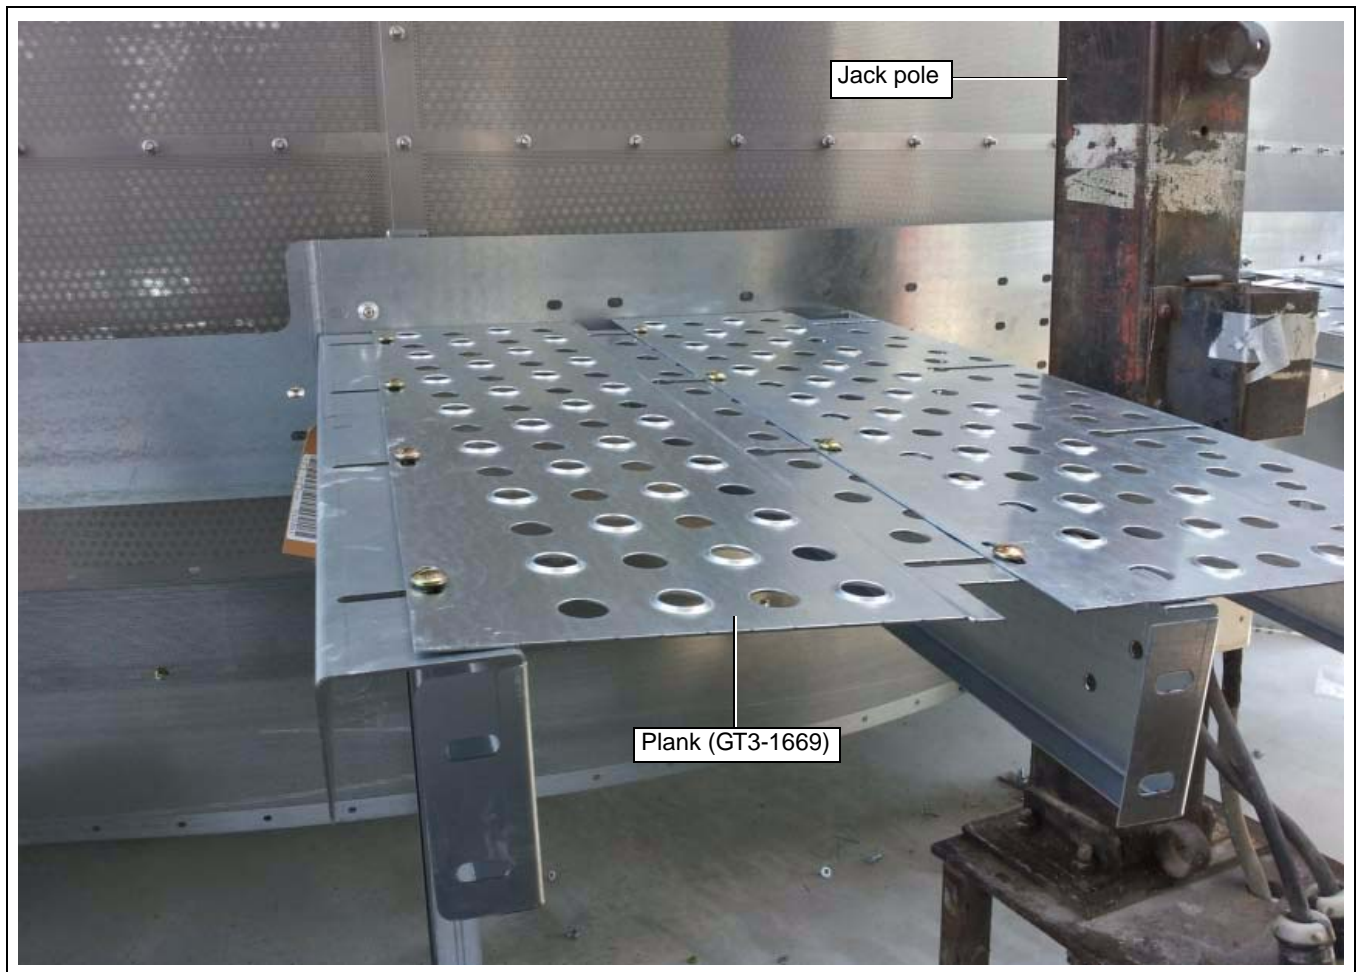

Figure 4L
4. Install all the planks (GT3-1669) continuously around the dryer except at the jack pole locations. (See Figure 4L.)